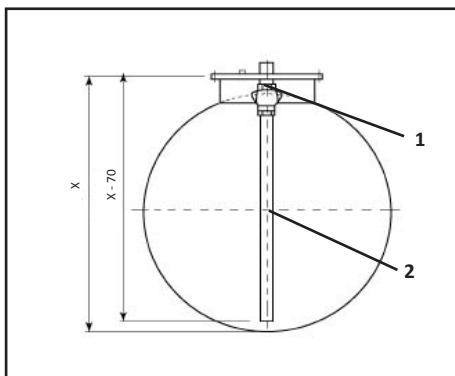

Figure 1
- 3 : Connect the pipe (position 2/Figure 1) to the ball valve :